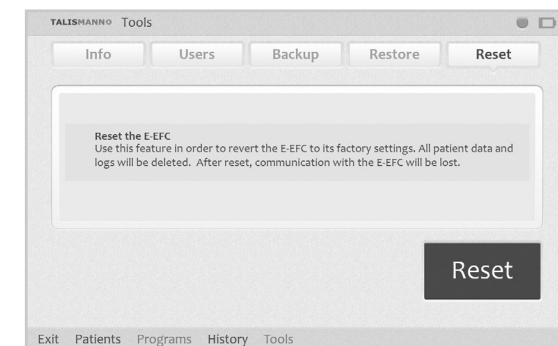

Figure 10-1: Resetting the Patient Programmer and E-EFC
2. Press “Tools” on the Menu Bar, then press the Reset Tab. See Figure 10-1.